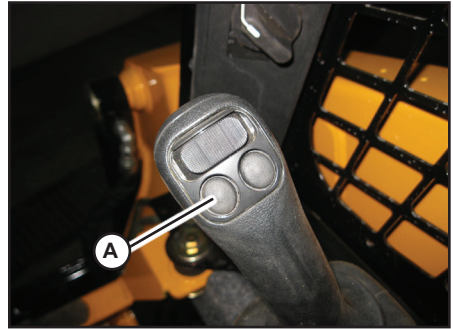

Fig. 20 - Lift Arm Float Button
2. Press button (A, Fig. 20) to activate float:
3. Press button (A) momentarily to apply float momentarily.
4. Press and hold button (A) for 5 seconds to activate continuous float. Press button (A) again to deactivate continuous float.